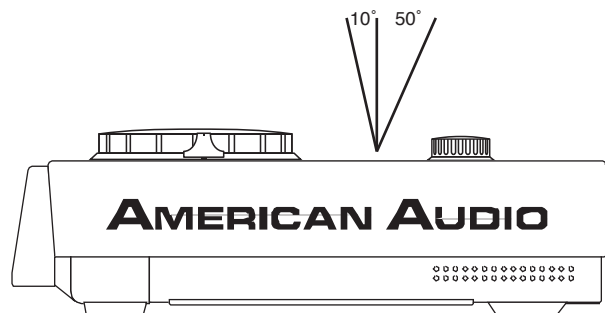

Figure 2
- The LCD is designed to be clearly visible within the angles shown in **Figure 2**. Mount the control unit so that the visual angle is within this range.